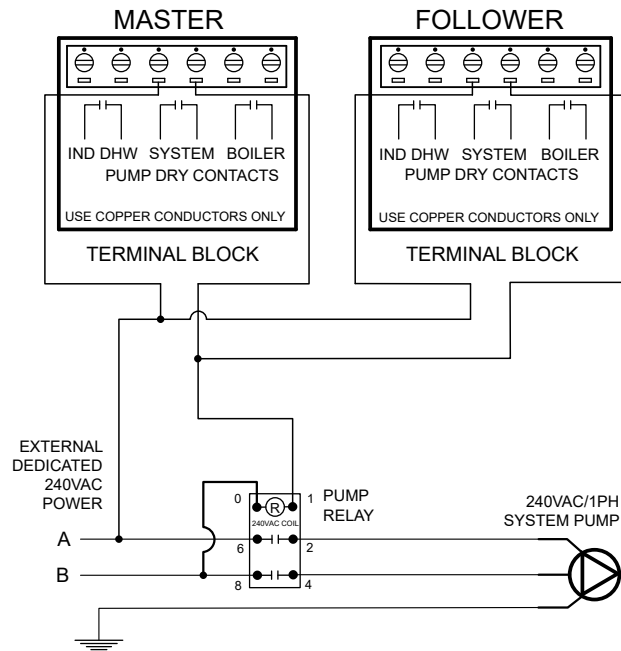

Figure 39. XVersL Cascade System Pumps (240VAC Shown)
1. On the boiler designated as the Master, connect the system pump enable wiring to the field-wiring terminal block inside the junction box. The connections are dry contacts rated for pilot duty only (5A maximum). See **Figure 39**.